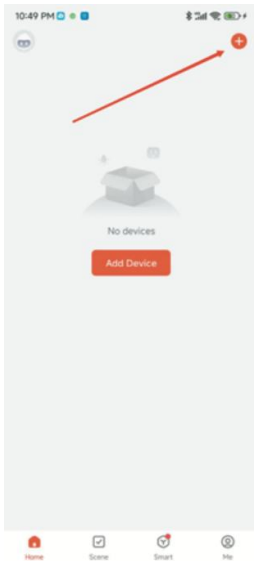

Figure1
- ① If the unauthorized unlocking information is input incorrectly for more than 5 times in a row within 5 minutes, the system will automatically enter the invalid input state (locked state), Invalid input status duration is 90 seconds.
- ② Password anti snooping function: when opening the door with password, enter the password as follows: XXX password XXX; You can add some irrelevant codes before and after the password, and then press # to confirm. The password must be included in what you enter.
- ③ The system will exit automatically if there is no operation for more than 10 seconds.
- ④ When the voltage is lower than 4.8V, the alarm will be given automatically every time the door is unlocked. After the alarm, the rear door lock can be unlocked 100 times. After the number is exceeded, the unlocking will be delayed for 5 seconds each time. Be sure to replace the new battery before the number of unlocking times.
- ⑤ Press and hold the set key for 6 seconds to initialize.
- 3 After completing the registration, you will automatically enter the main interface, click "+" in Figure 1 at the top of the screen, then click "add device" in Figure 2, click "camera / lock" in Figure 3, find "Wi Fi" and click.